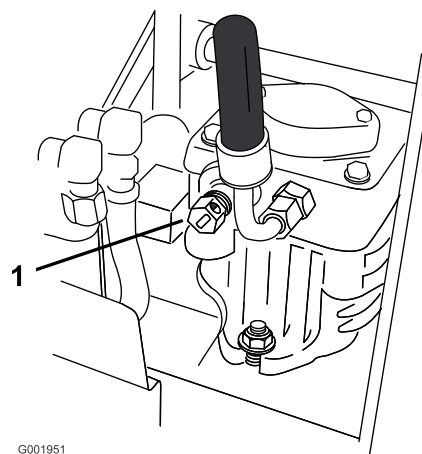

Figure 23
2. Open the by-pass valve on both pumps by turning them counter clockwise 1 to 2 turns. This allows hydraulic fluid to by-pass the pumps and the wheels to turn (Figure 23).